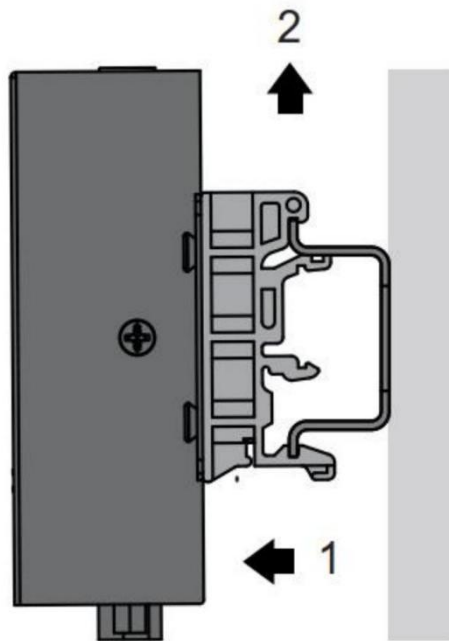

Fig.5 Remove the DIN-Rail
- ✧ Proceed to Fig.5 if you want to remove the device from DIN-Rail. Push down on the top of the DIN rail clip release tab with your finger. As the clip releases, lift the bottom of the device, as shown in the following illustration.